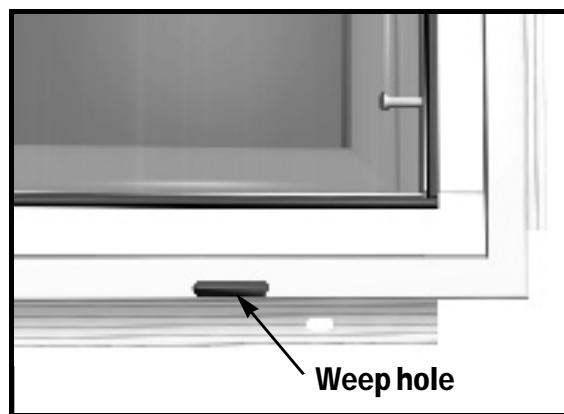

fig.2
**Step 1.** Place window in opening (Make sure locking handle is to the **INSIDE** and weep slots are to the **OUTSIDE** and **BOTTOM**). Secure window to wood plate using two (2) #8 x 2" pan head or round head wood screws through **PRE-DRILLED** header holes.
**Step 2.** Apply mortar wash to opening between top of block and bottom of window. Caulk the interior and exterior around mainframe and wall. To insure proper water drainage be sure that the exterior weep holes are not covered or obstructed (see fig. 2).
**Step 2.** Secure window to wood plate using two (2) #8 x 2" pan head or round head wood screws through **PRE-DRILLED** header holes.
**Step 3.** Apply mortar wash to opening between top of block and bottom of window. Caulk the interior and exterior around mainframe and wall. To insure proper water drainage be sure that the weep holes are not covered or obstructed (see fig.2).